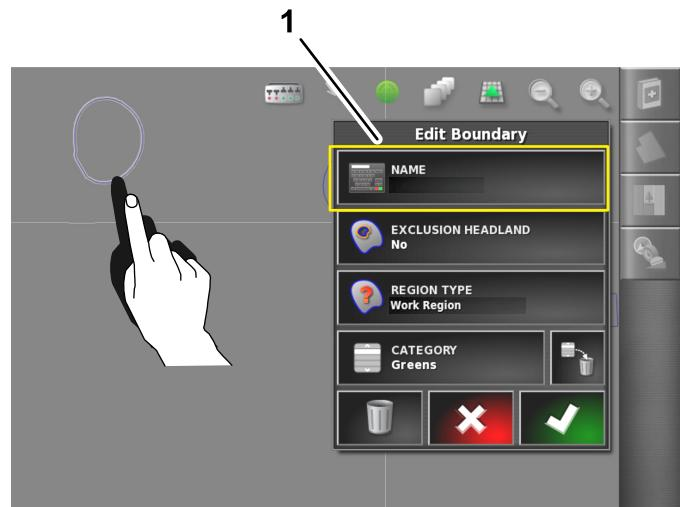

Figure 57
2. Remove your finger from the screen, and the edit boundary dialog box opens (Figure 57).